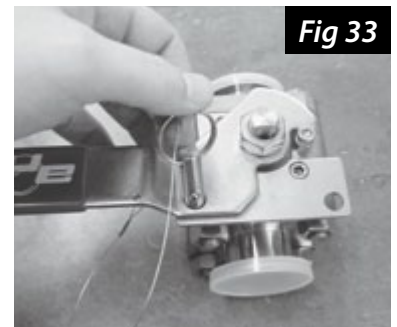

Fig 33
20. Insert pin (or a padlock of your choice) through the valve handle and lock plate (Fig 33).